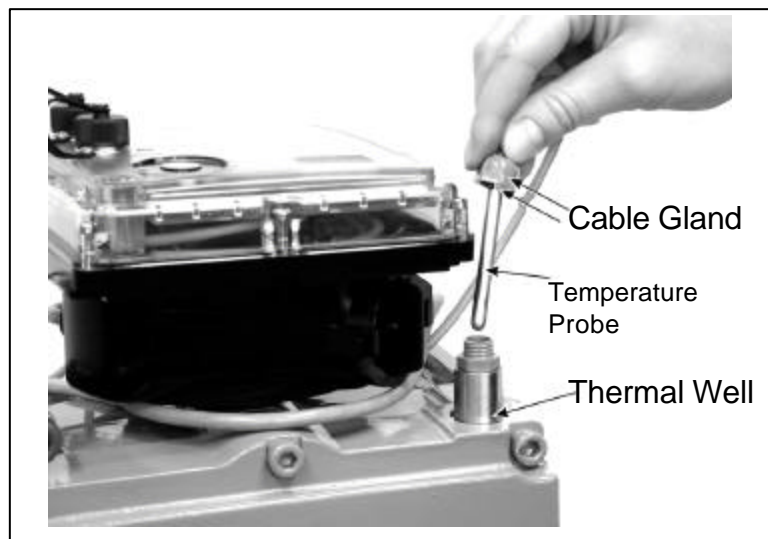

Figure 7.7 Temperature Probe Removal
6. If the Dattus fM meter is equipped with a temperature probe for Electronic Temperature Compensation, remove the probe from the thermal well as shown in **Figure 7.7**